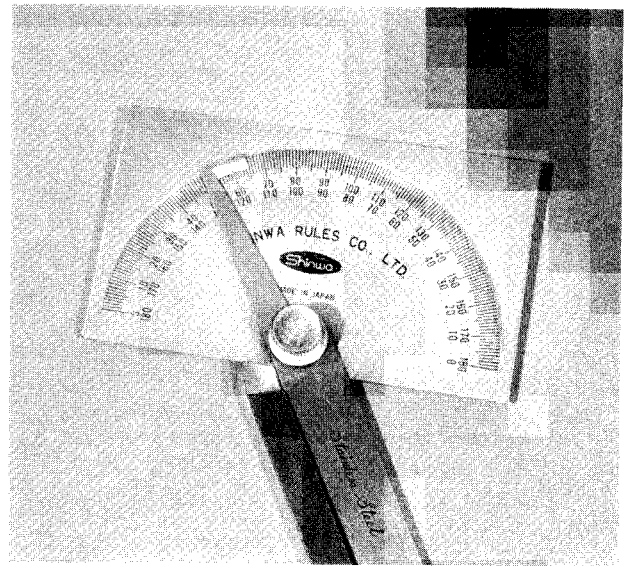

FIGURE 9.51 Measuring the end-cutting angle with a protractor.
4. The first angles ground are the end relief and end-cutting edge angles. Hold the toolbit against the rotating wheel and tilt the bottom inward 26° (only 10° is required with straight toolholders described in Sec. 9.5.3) for the end relief angle and to the right 30° for the end-cutting edge angle. [Note: Beginners should use a suitable gage or protractor to measure each angle during grinding (Fig. 9.51). Laying out the angles of the toolbit on a piece of cold-rolled steel and practicing grinding may help the beginner.]